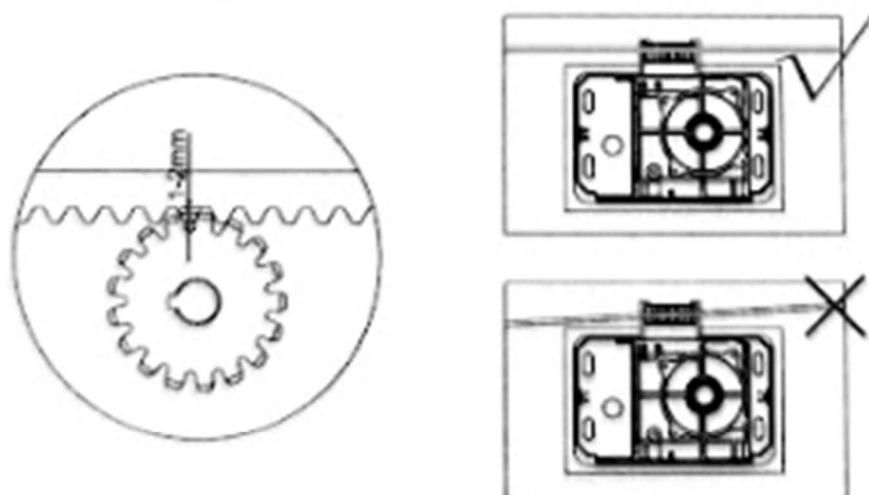

Figure 14
- Ensure that the output gear has a minimum clearance of 1-2mm along the entire length of gear rack fitted to the gate (as per Figure 14)
- Ensure output gear and gear rack are correctly aligned. Under no circumstances should the gate opener output gear carry any weight of the gate. It is the task of the gate castors or wheels to carry the weight of the gate (as per Figure 14).